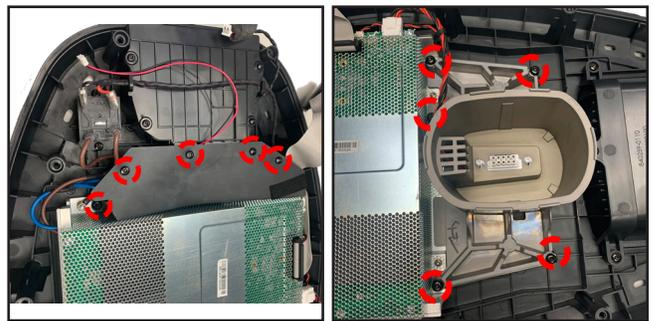

Figure 12. PP Sheet & Bracket Removal
3.2 Remove the 5 screws that secured the PP Sheet as indicated in Figure 12 (left).
3.3 Remove the 5 screws that secured the Array base bracket as indicated in Figure 12 (right).